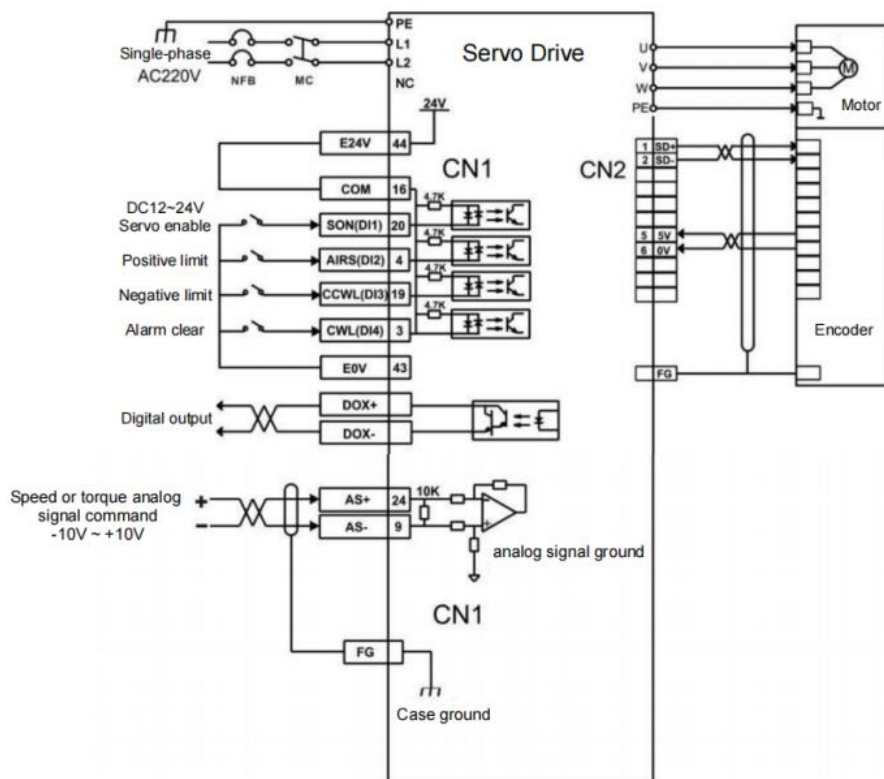

Figure 5.4 Speed Mode Wiring Diagram
- 3) Refer to Figure 5.4 for wiring instructions to connect the required DI/DO signals in the CN1 terminal, such as servo enable, alarm clear, positioning completion signal, etc.